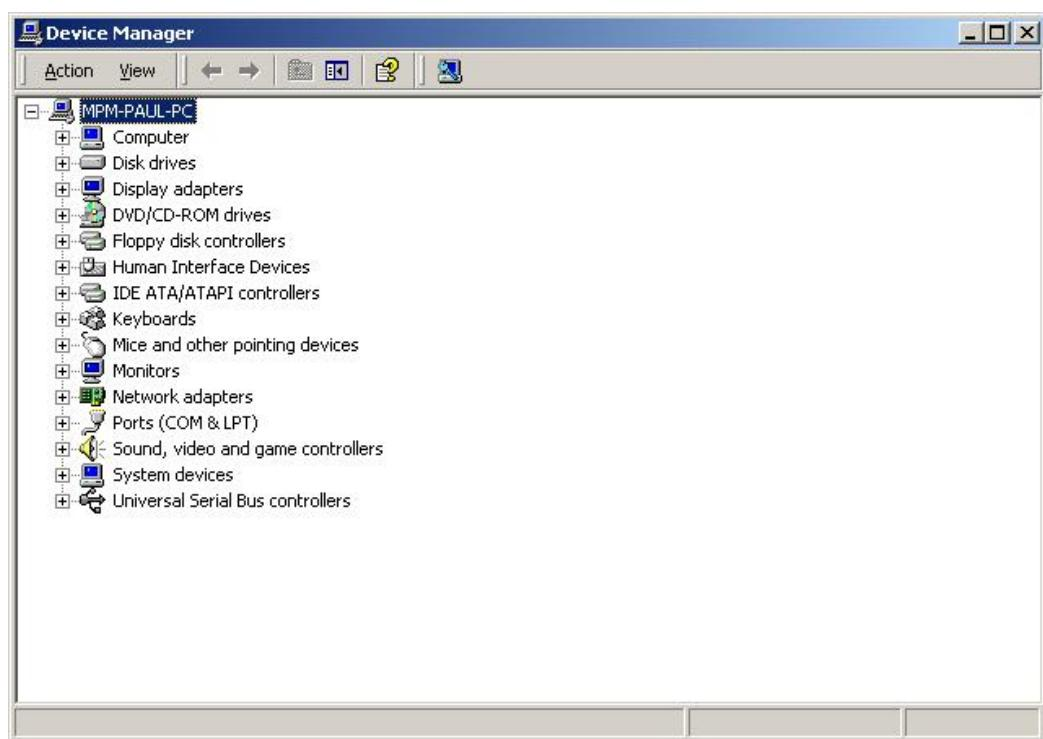

Figure 7-16: Device Manager List
Step 4: A list of system hardware devices appears (**Figure 7-16**).